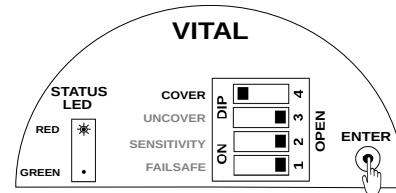

Figure 12: Setting Cover Delay
- Press ENTER. The STATUS LED starts blinking. Blink the STATUS LED according to value of cover delay as shown in Figure 12.